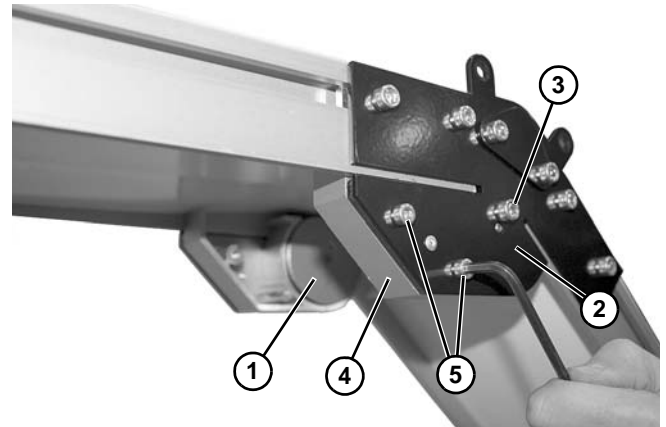

Figure 68
1. If equipped with an upper knuckle, install roller bearing assembly (**Figure 68, item 1**) into knuckle plate (**Figure 68, item 2**) with screws (**Figure 68, item 3**) on both sides of conveyor.
2. Install guard (**Figure 68, item 4**) on both sides of conveyor with screws (**Figure 68, item 5**). Tighten screws to 25 in-lb (3 Nm).